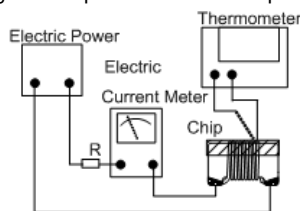

Fig.6.3.5-1
- Definition of Rated Current (I_r): I_r is direct electric current as chip surface temperature rose just 20°C against chip initial surface temperature (T_a) (see **Fig. 6.3.5-2**).